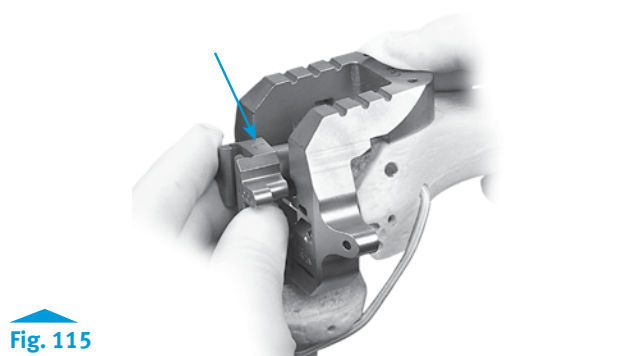

Fig. 115
- Insert the stem/bushing assembly into the RH Knee Notch/Chamfer Guide, ensuring that the proper “R” or “L” (right or left) designation is showing anteriorly (Fig. 115).